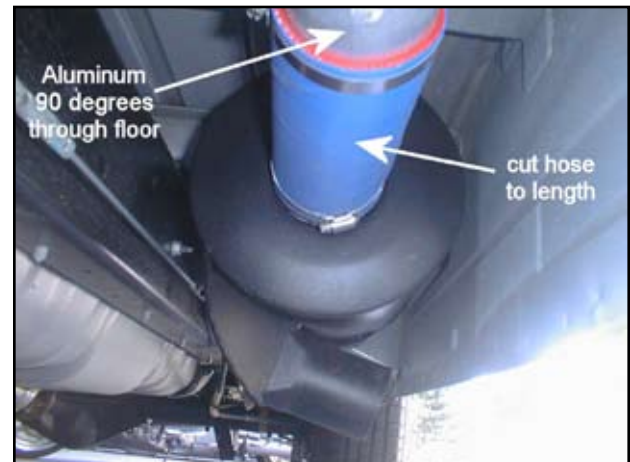

Figure 22. Install External Silencer
8. Install external silencer under the van (Figure 22). Depending on the van model, the silencer may span the "rib" of the floor or bolt directly to the van floor.